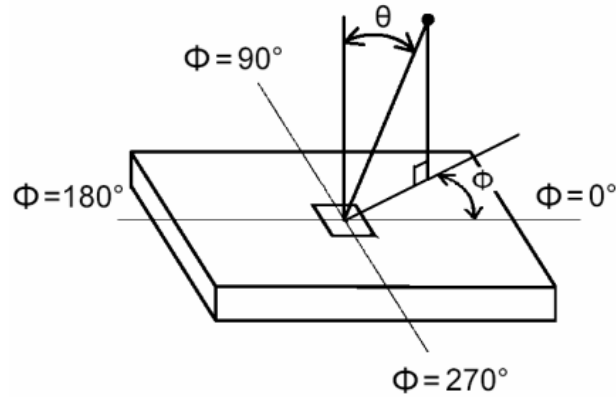

Fig.4-3 Viewing angle definition
5. Viewing angle is the angle at which the contrast ratio is greater than 10. The angles are determined for the horizontal (or x-axis) and the vertical (or y-axis) with respect to the z-axis which is normal to the LCD surface. For more information see Fig. 4-3.